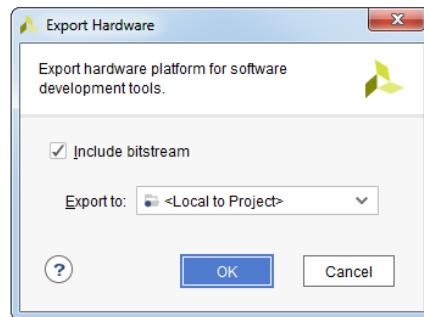

Figure 10.45: Export Hardware dialog box
14. In the **Export Hardware** dialog box, you don't have to include bitstream file, so just click **OK**, see Figure 10.45.